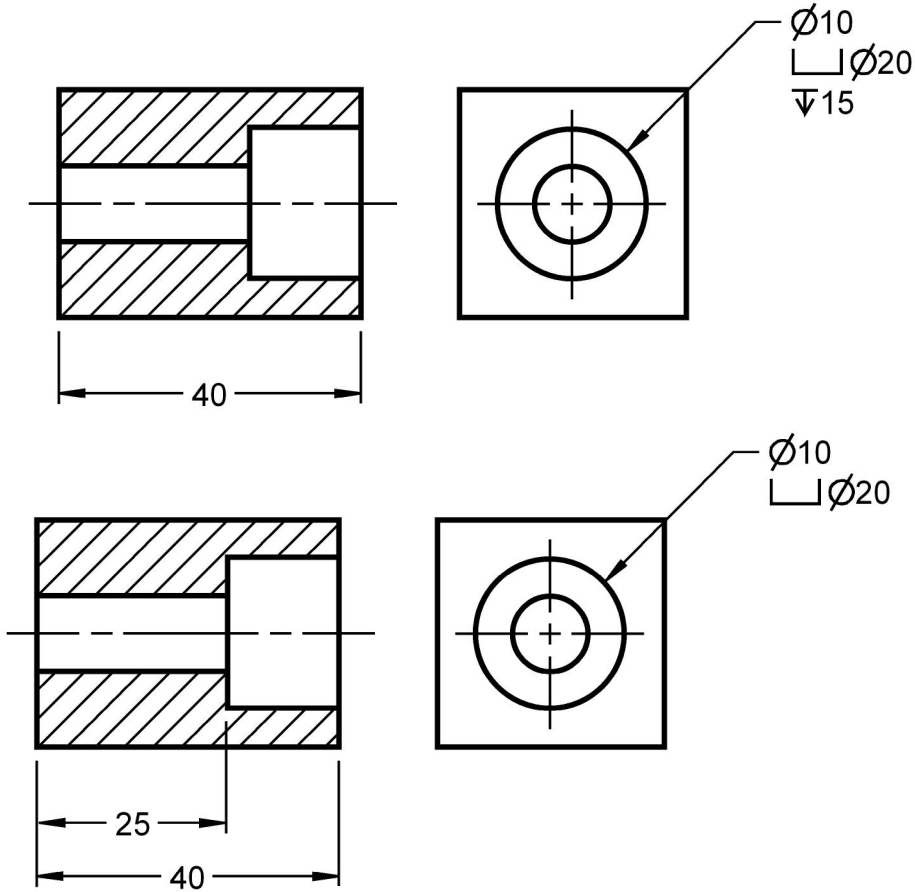

Figure 2-15: Counterbored holes.
g) Counterbored holes are specified by giving the diameter (\varnothing) of the drill (and depth if appropriate), the diameter (\varnothing) of the counterbore (\sqsubset), and the depth (∇) of the counterbore in a note as shown in Figure 2-15. If the thickness of the material below the counterbore is significant, this thickness rather than the counterbore depth is given.